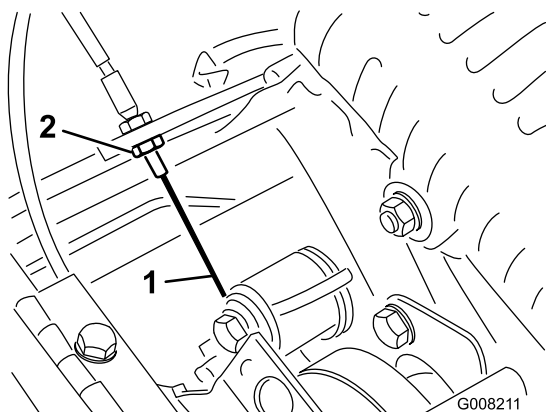

Figure 36
3. To increase the cable tension, loosen the front cable jam nut and tighten the back cable jam nut (Figure 36) until a force of 7 to 9 lb is required to engage the traction control. Measure the force at the control knob.